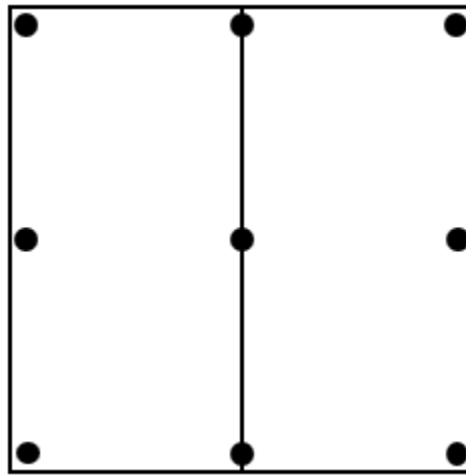

Figure 8.1 Designated Landing Zone Configuration with Stakes
1. One (1) Zone with a size of 8 ft x 8 ft..
2. Surface made from two (2) sheets of 4 ft x 8 ft coroplast (corrugated plastic) with a 4 mm thickness.
3. Surface staked into the ground with a minimum of nine (9) stakes (see Figure 8.1). Stakes are 8 inch or longer, metal, and fully embedded into the ground.